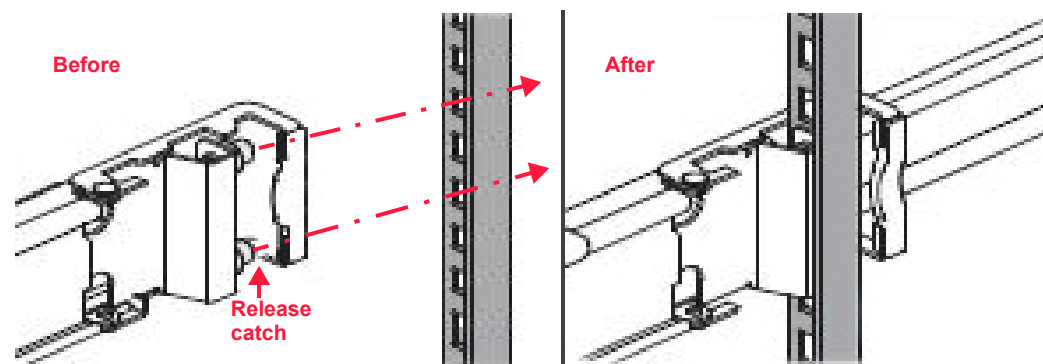

Figure 2.16 Installing the left rear bracket
1. Align the left rear bracket mounting screws with the appropriate left rear rack post holes as shown in the “Before” image of Figure 2.16.
2. Press and hold the release catch identified in the “Before” image of Figure 2.16 and push the bracket into place so that the mounting screws install securely into the rack post holes.
3. Once the screws are fully inserted, release the catch to secure the rail to the post. Refer to the “After” image in Figure 2.16 on page 20 for an illustration of a properly installed left rear cabinet member bracket.